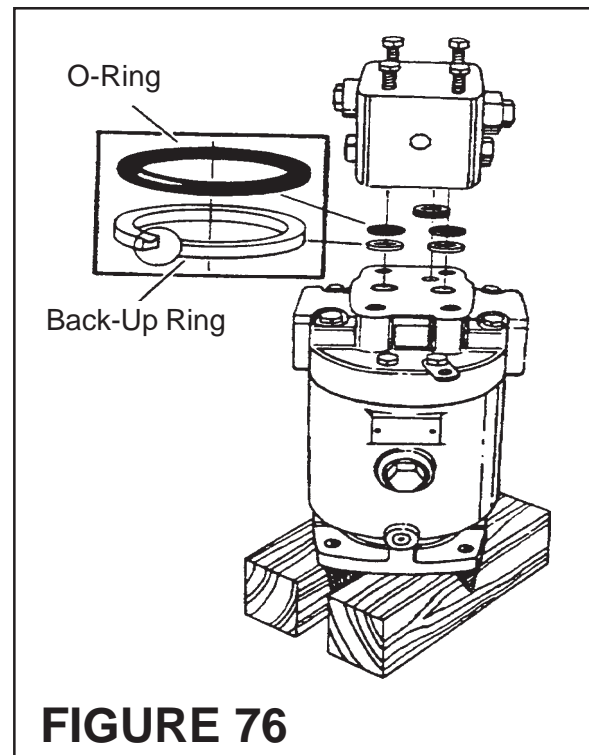

**FIGURE 74**
15. Lubricate O-Ring Seal of Stationary Seal assembly (Figure 74). Then install Stationary Seal Assembly .